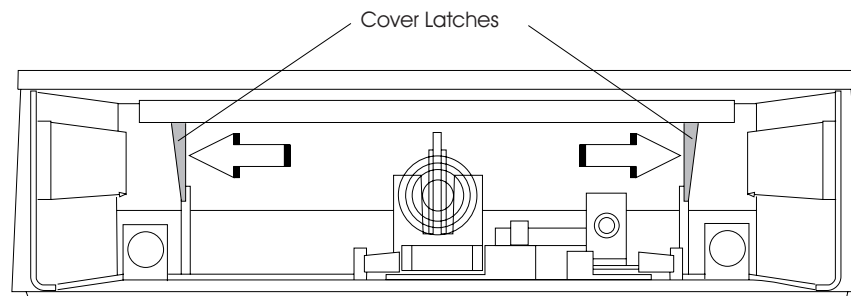

Figure 90. Removing and replacing the top cover
5. To separate the top cover from the base, reach in from the front and push the cover latches outward while pushing them to the rear. The cover slides off toward the rear (see Figure 90).